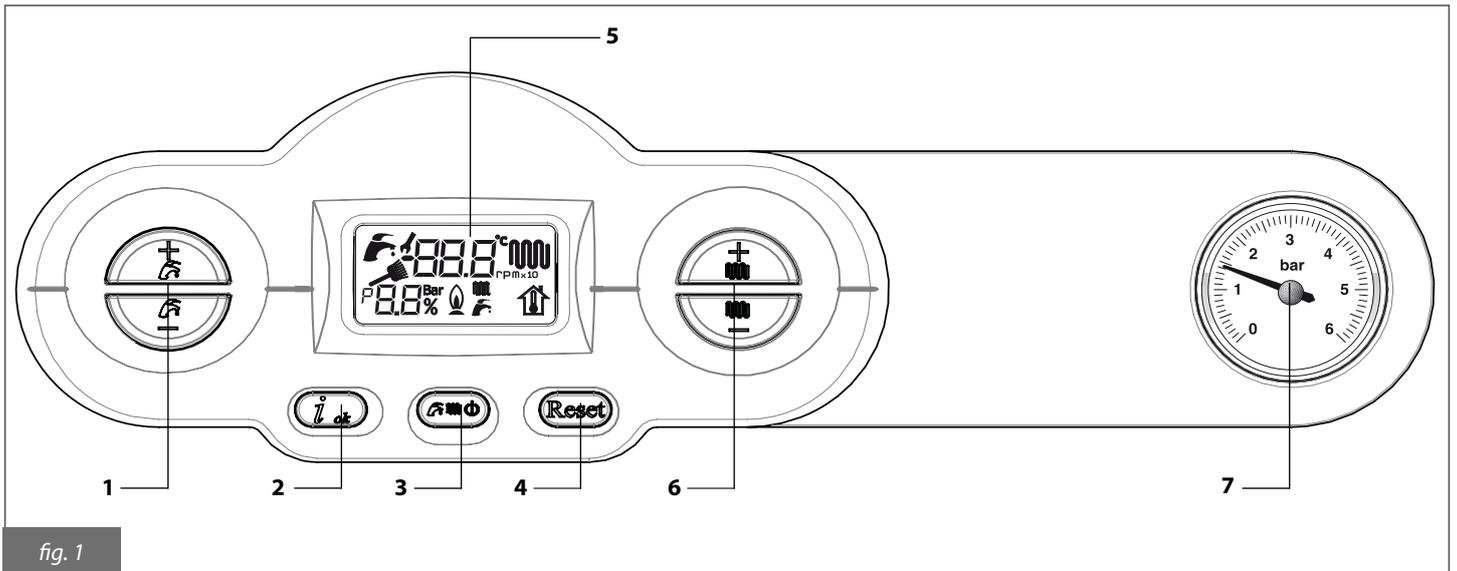

fig. 1
Flashes when adjusting the DHW temperature with the buttons **1** (fig. 1).
It flashes when adjusting the central heating water temperature with the buttons **6** (fig. 1).
- select boiler operation mode via button **3** (fig. 1): OFF/SUMMER/WINTER/CENTRAL HEATING ONLY;